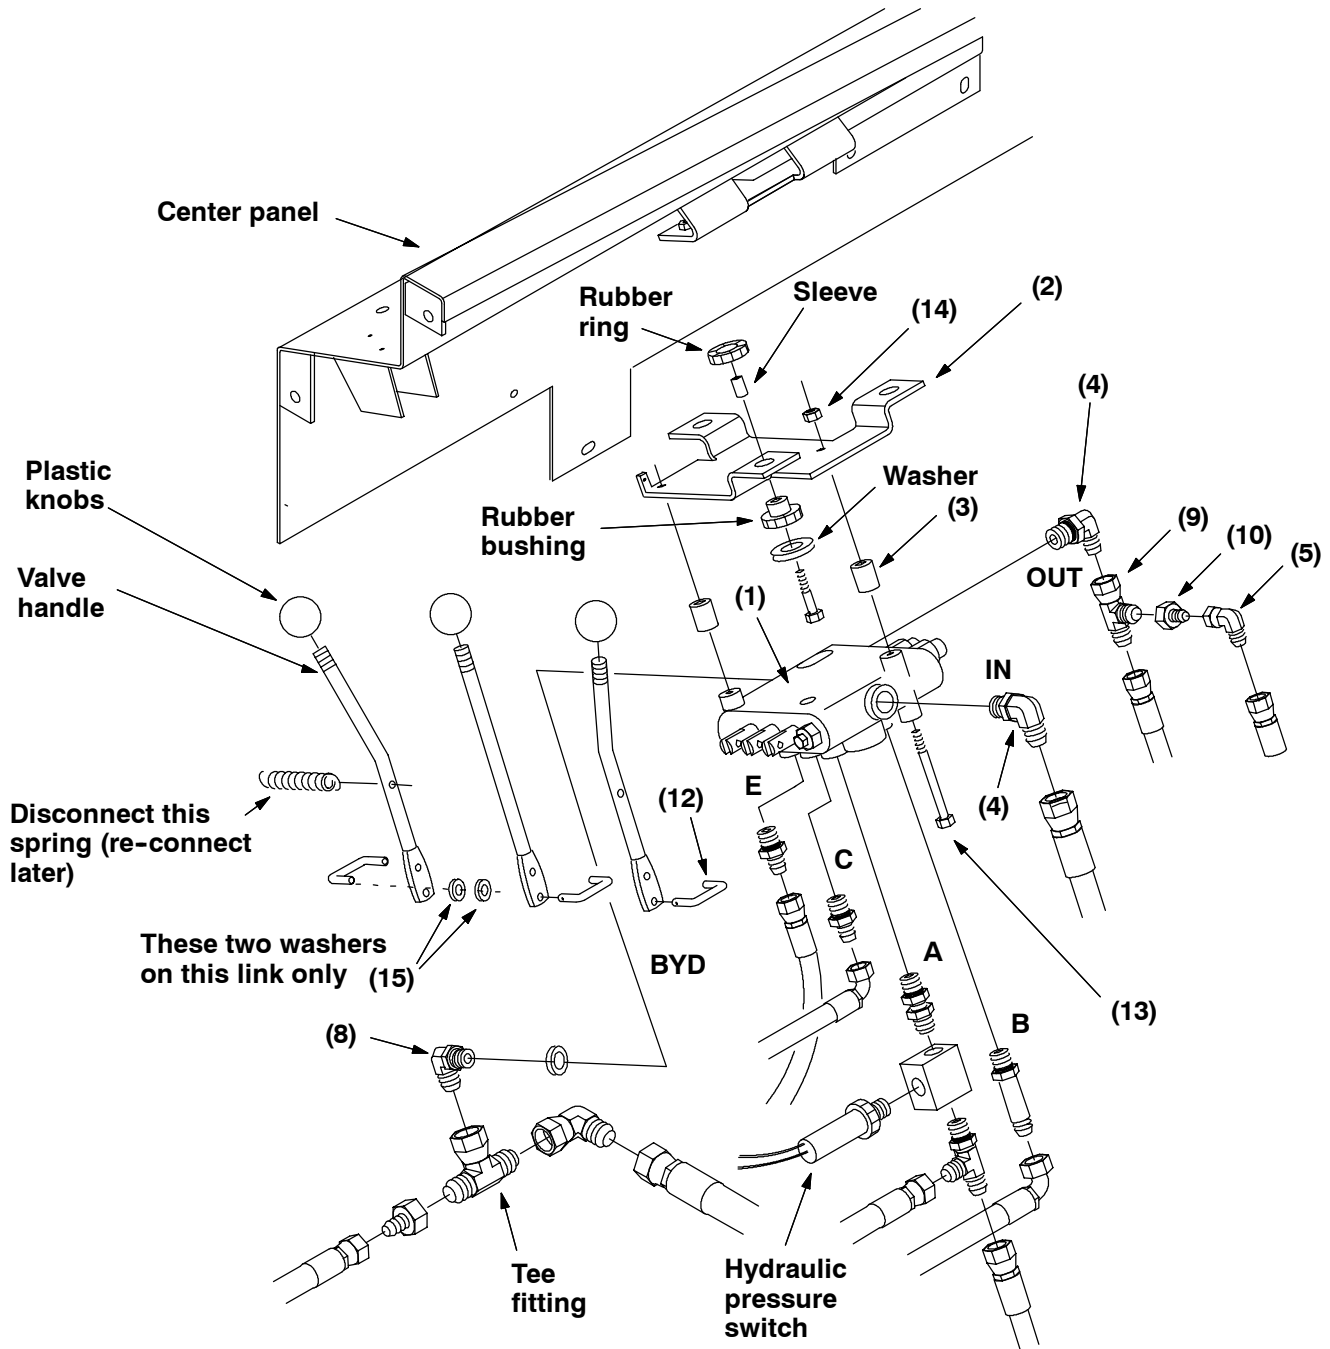

FIG. 2 - 385 Valve Installation
3. On the **385** and **355E** models; the hydraulic pressure switch must be disconnected from the main harness. (Refer to Fig. 2 and 3)
(Refer to Fig. 2 and 3)
1. Remove and retain the hair pins and clevis pins holding the three handles to the old valve. Remove and retain the three valve handles. Discard the three valve handle links. (Refer to Fig. 2)
2. Remove the existing fittings from the **A**, **B**, **C**, and **E** ports on the old valve. Install these fittings in the new valve (1) in the same orientation as they were removed. (Refer to Fig. 2)
NOTE: Make sure the fitting block containing the pressure switch is carefully oriented when reinstalling the fittings in the new valve. (Refer to Fig. 2)
3. Make sure the tee fitting that is on the 90° fitting in the **BYD** port on the old valve is removed and retained. (Refer to Fig. 2)
5. Install the 90° fitting (8) in the **BYD** port of the new valve (1). (Refer to Fig. 2)
6. Install the 90° fitting (4) in the **OUT** port of the new valve (1). (Refer to Fig. 2)
7. Install the tee fitting (9) on the 90° fitting installed in step 6. (Refer to Fig. 2)
8. Install the straight fitting (10)) on the 90° outlet of the tee fitting installed in step 7. (Refer to Fig. 2)
9. Install the 90° fitting (5) on the straight fitting installed in step 8. (Refer to Fig. 2)
10. Install the 90° fitting (4) in the **IN** port of the new valve (1). (Refer to Fig. 2)
11. Install the old valve handles on the new valve (1) using the new handle links (12). (Refer to Fig. 2)
NOTE: Make sure the straight handle is installed in the center position and the handles with a bend are installed with the top of the handle pointing outward. (Refer to Fig. 2)
12. Install the new valve mount bracket (2) in the machine using the three washers, rubber bushings, sleeves, and rubber rings that were removed in step 7 of the TO REMOVE OLD VALVE instructions. Tighten the hardware firmly. (Refer to Fig. 2)
13. Position the new valve assembly in the machine. Carefully push the valve handles up through the rubber boot. A small amount of WD40 or other lubricant will make this easier. (Refer to Fig. 2)
14. Attach the new valve assembly to the new valve mount bracket (2) using the two hex screws (13), two sleeves (3), and two nyloc nuts (14). *The sleeves are placed between the valve and valve mount bracket.* Tighten the hardware to 7 - 10 ft lb. (Refer to Fig. 2)
15. Reconnect the hydraulic hoses to the new valve (1) starting from most inside fitting and working outward. (Refer to Fig. 2)
16. Reinstall the plastic knobs to the three valve handles. (Refer to Fig. 2)
17. Reconnect the hydraulic pressure switch to the main electrical harness. (Refer to Fig. 2)
18. Start the machine and operate the hydraulic components. Check the new valve and hoses for any leaks. Turn off the machine and check the hydraulic fluid reservoir for proper fluid level. (Refer to Fig. 2)